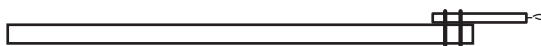

Figure 2. Igniting stick
3. Prepare an igniting stick as shown in Figure 2. Attach a candle to the end of a long stick such as a metre stick, wood pointer, or dowel rod. Attach the candle to the stick using tape or rubber bands.